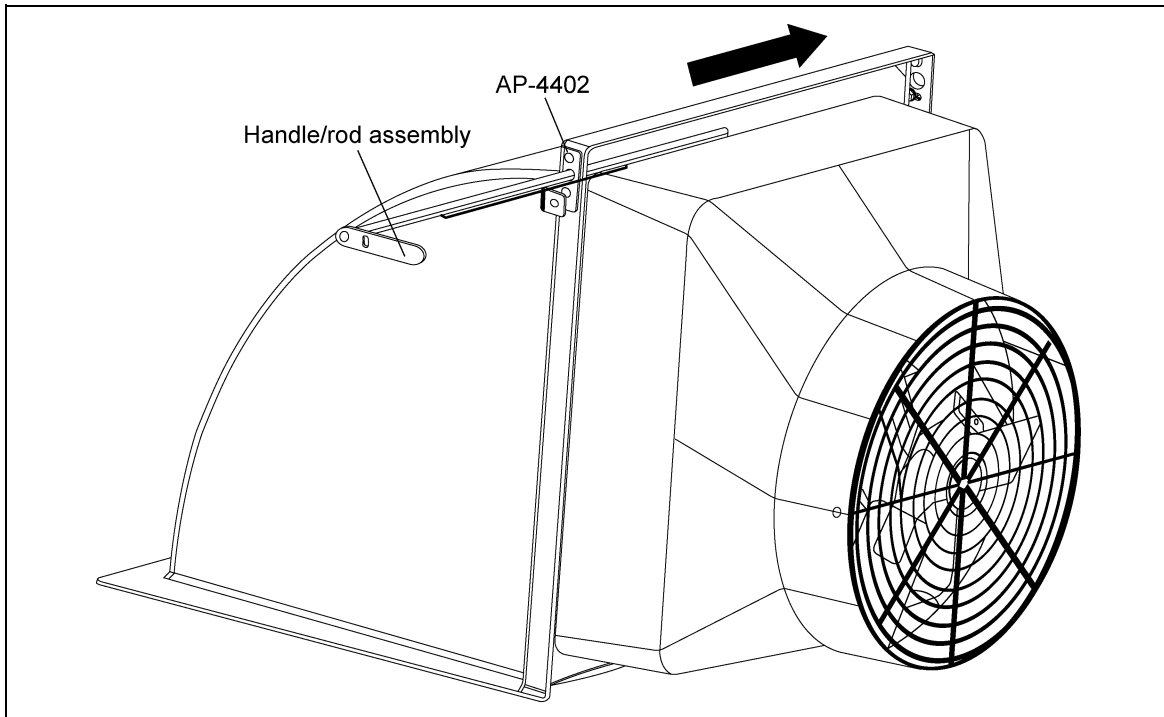
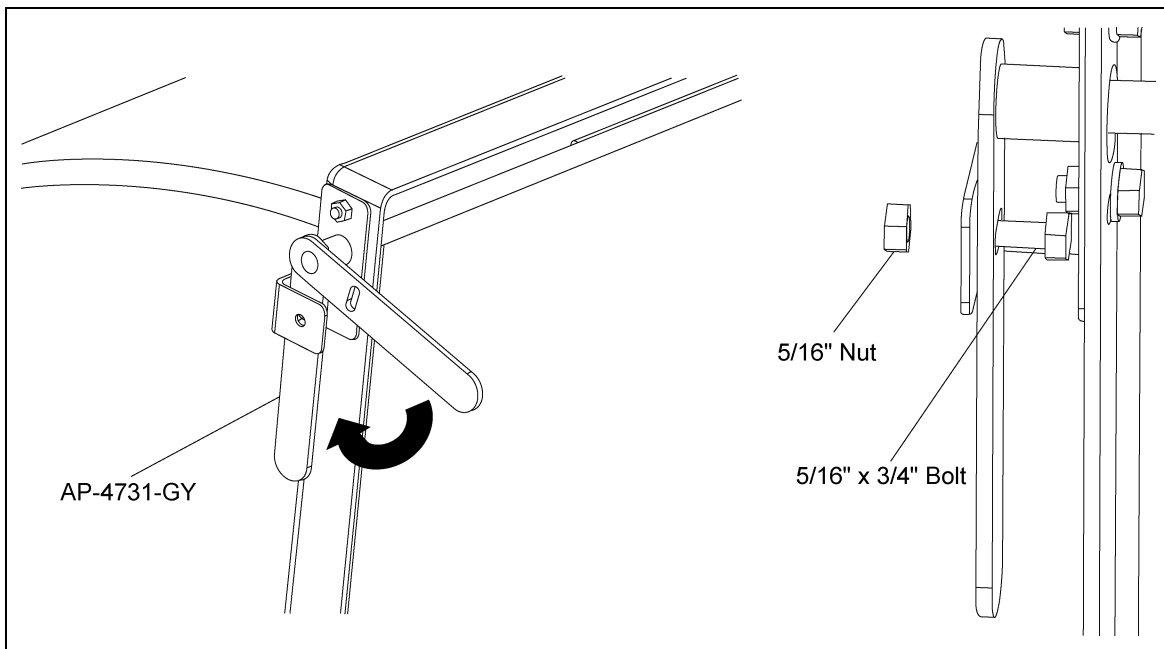

Figure 2I
Figure 2J
Step 6: While holding the fan tight against the transition, insert the handle/rod assembly AP-4731-GY into the brackets previously installed. When the handle is completely through the brackets, turn the handle to lock the fan in place. Insert the provided hardware through the handle and bracket AP-4402 to lock the handle in place. (See Figure 2I and Figure 2J.)